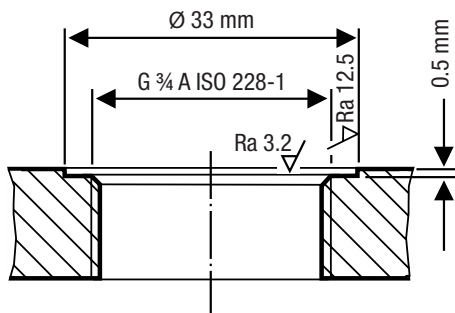
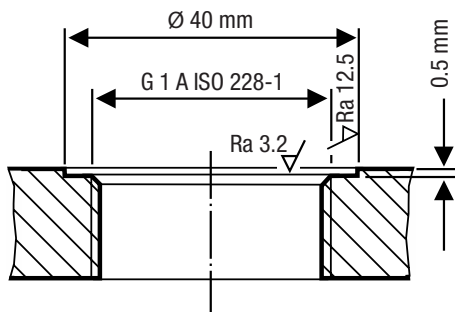

Fig. 13
Fig. 14
- Inspect the sealing surfaces of the tank standpipe and flange cover to ensure they are perfectly machined, see Fig. 13 and Fig. 14.
Sealing surfaces must be perfectly machined as shown in Fig. 13 and Fig. 14.